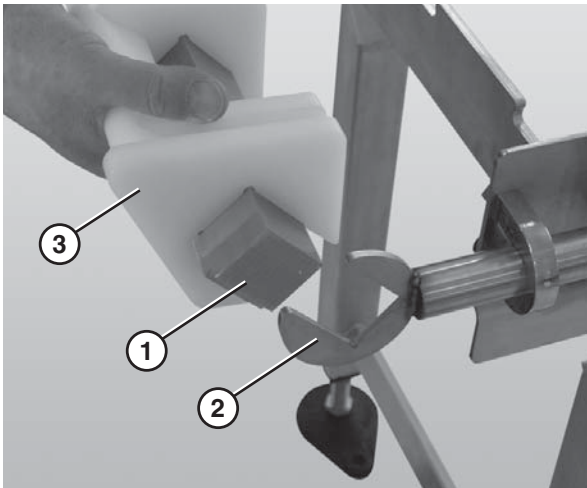

Figure 66
4. After all tracking pucks (Figure 66, item 3) are installed, slide the nose bar drive or transfer post (Figure 66, item 1) into the nose bar drive weldment or idler hands (Figure 66, item 2).